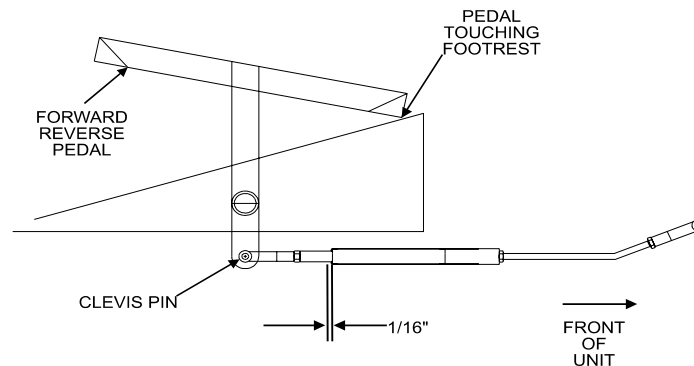

FIGURE 12
- b) Check the gap between the motion override tube and the spacer. This gap should measure 1/16" (See Figure 12).